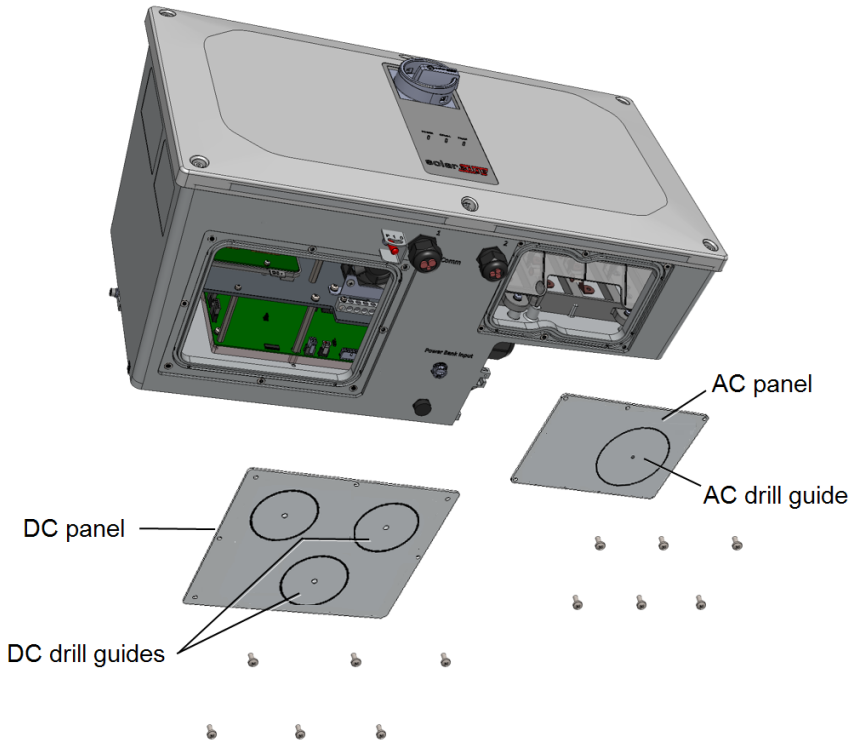

Figure 14: AC and DC panels with drill guides at the bottom of the Synergy Manager
3. Locate the drill guides for conduits on the DC and AC panels. Drill entry hole(s) for up to 5 cm conduit on the DC panel and 6.35 cm on the AC panel or drill entry hole for a single conduit, within the boundary marked on the inner side of the DC panel (see Figure 14).